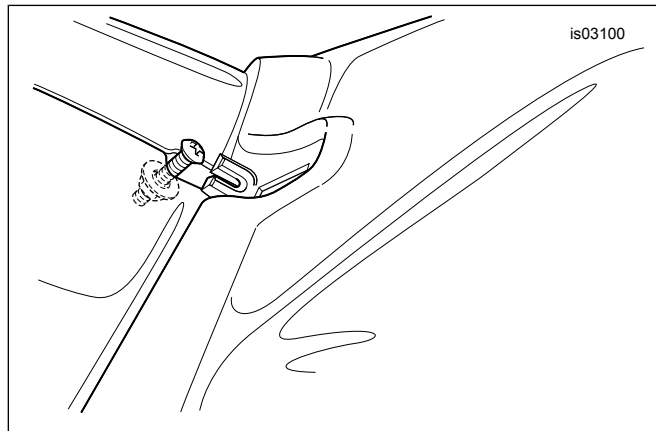

Figure 9. Wind Deflector Assembly to Nacelle (FLHRS Models)
- d. See Figure 9. Holding the screw assembly, reach inside the headlamp nacelle and insert **just the screw head** up through the opening to engage the slot in the tab at the front of the wind deflector. The nut and flat washer should remain inside the nacelle. Tighten the screw.